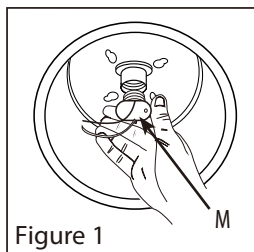

Figure 1
2. Thread the socket pigtail (M) into the recessed can socket (Figure 1).